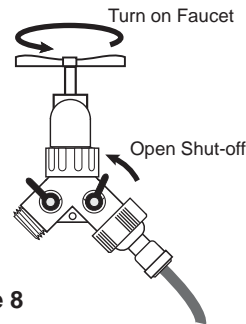

Figure 8
11) Slowly turn on the faucet (see Figure 8). Make sure that both Shut-offs on the Wye are fully closed.
12) Open the Shut-off on the Supply Line side of the Wye (see Figure 8) until you detect water starting to flow. **Make sure the pressure does not push the Supply Line out of the Float Valve connection.** If it does, roughen the end of the tubing with steel wool and then repeat Step 8 and tighten. Let the Canister fill with water until the Float Valve shuts off.